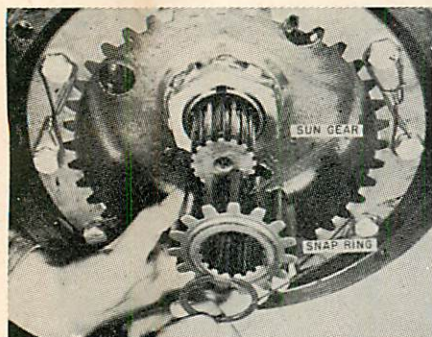
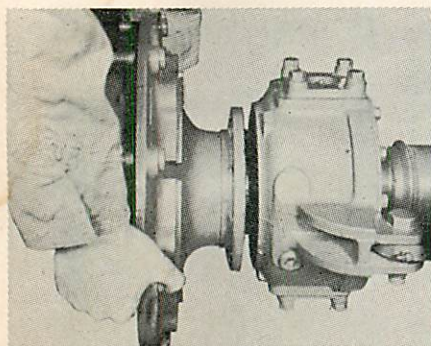

Fig. O16 — Sun gear can be removed from outer end of axle shaft after snap ring is removed. Note method of safety wiring the internal gear capscrews.
Fig. O17 — Removing wheel hub assembly from spindle support.
32. HUB ASSEMBLY. To overhaul the wheel hub assembly, first remove planet spider assembly as outlined in paragraph 30. With planet spider removed, remove snap ring and sun gear from outer end of axle shaft. See Fig. O16. If necessary, the internal gear can be removed at this time by clipping the lock wires and removing retaining capscrews. Straighten tabs of spindle nut lockwasher, then use OTC tool JD-4 or equivalent and remove spindle outer nut and lockwasher. Now loosen but **do not** remove the spindle inner nut. Unbolt spindle from spindle support and remove wheel hub assembly as shown in Fig. O17.